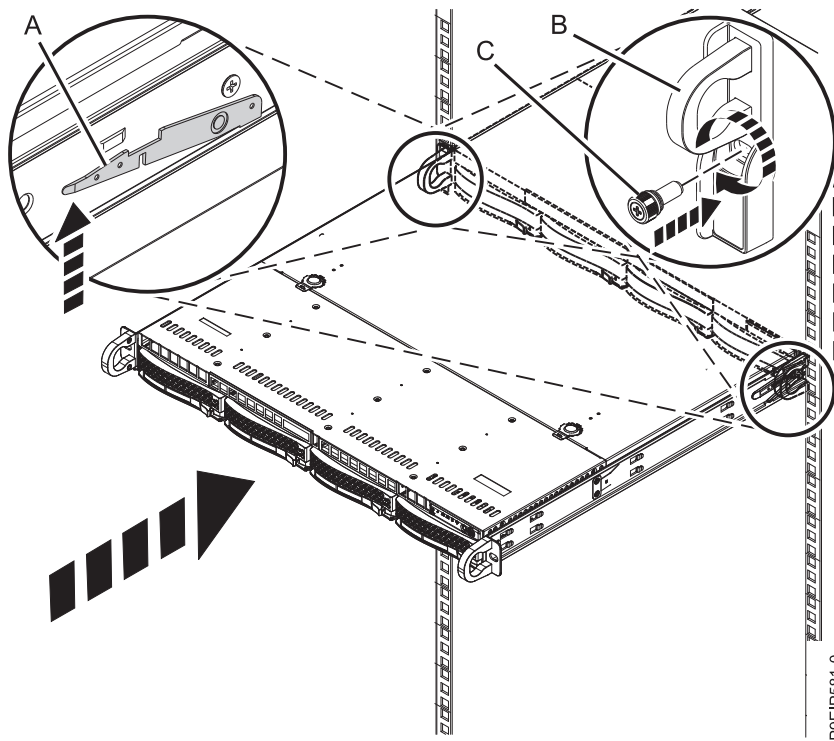

Figure 73. Placing the system into the operating position
5. Release the rail safety latches (A) by lifting them upward, as shown in Figure 73, then push the system fully into the rack. The safety latches work in opposite directions; the latch on one side moves up while the latch on the other side moves down.